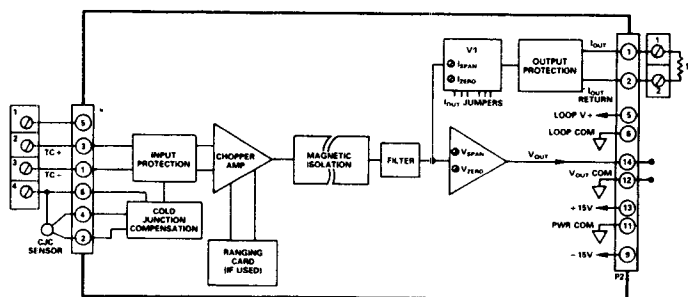

Figure 2.1.10.1 OM3-ITC Functional Block Diagram
Figure 2.1.10.1 shows a functional diagram for the model OM3-ITC. Input protection of up to 220V is provided for the input circuitry. Cold Junction Compensation with an initial accuracy of $\pm 0.5^\circ\text{C}$ is performed in each unit with the external sensor provided on all channels of the OM3 Series backplane. The signal is amplified and filtered to give the high level voltage outputs. Chopper based amplification is used to assure low drift and excellent long term stability. Transformer coupling is used to achieve stable galvanic isolation between input and output. Both the voltage and current outputs can be independently adjusted over a $\pm 5\%$ span range for zero and span with the front panel accessible potentiometers. The current output, which has 130V output protection, interfaces with user equipment through screw terminal connections.
1. Make connections as shown in Figure 2.1.10.1 with $R_L = 250\Omega$. Use a precision millivolt source.
Gain G is a ratio of the change of output to the input change that produced it. If there is to be no zero suppression, (i.e., $0^\circ\text{C} = 0mV = 0V$ output) then R_2 should be a jumper and R_3 should be left open. Refer to the cold junction compensation section for the value for R_4B . These resistors should be installed as indicated in Figure 2.1.10.2.